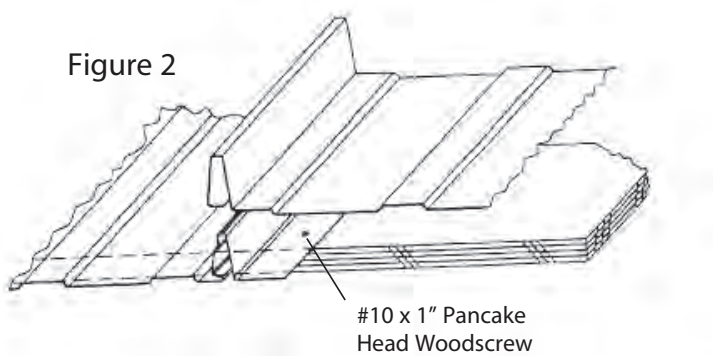

Figure 2
5. Align the second panel female edge with the male edge of the starter panel. (See Figure 2) Panel edges must be flush with each other at eave edge. Remember, panels should be extended over eave by 1".